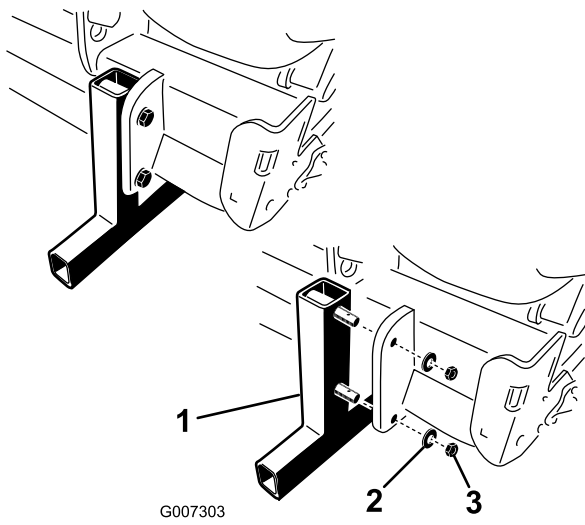

Figure 16
2. Remove the nuts and lock washers securing the storage stands to the aerator (Figure 16).
4. Insert the lynch pins (included in loose parts) into the stand pins for storage (Figure 16).